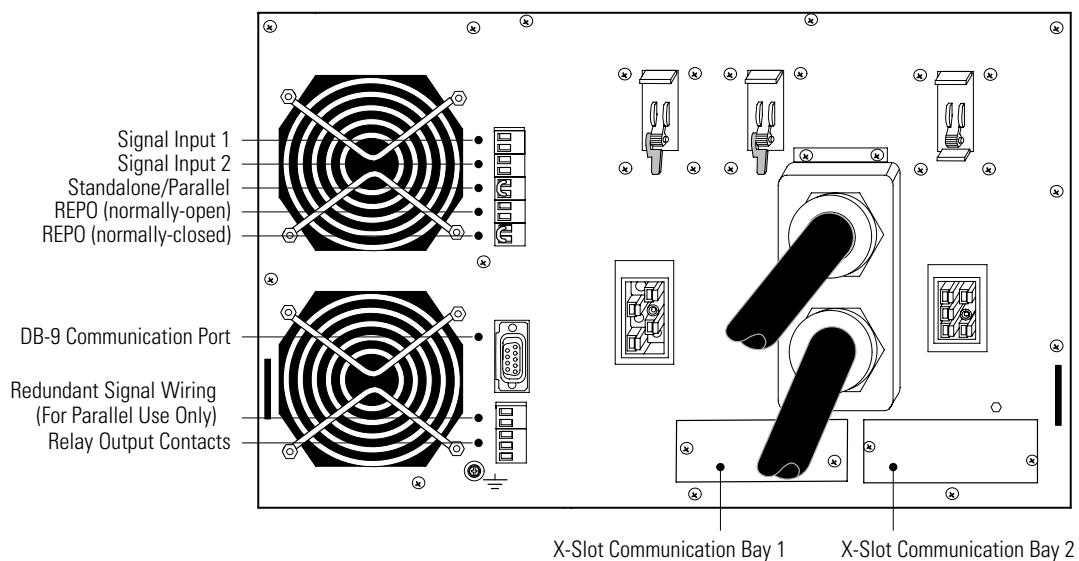
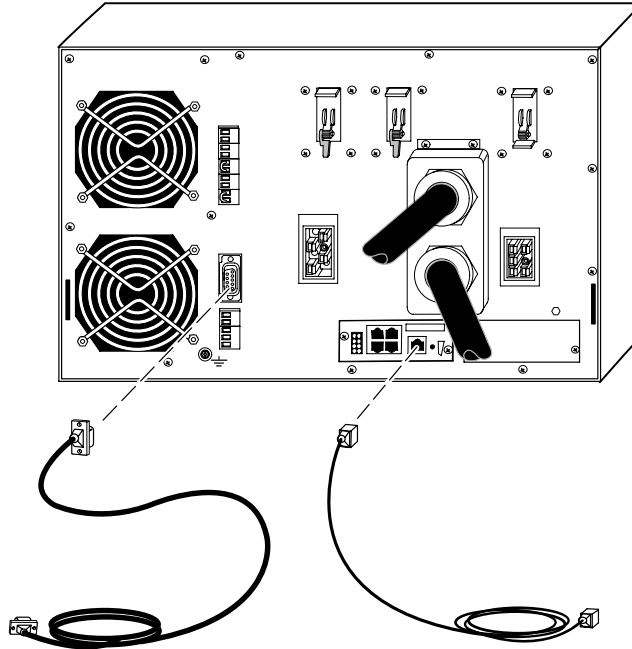
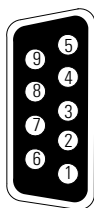

Figure 45. Communication Options and Control Terminals (Standalone UPS shown)
Figure 46. Installing Communication Cables
Figure 47. Communication Port
Figure 45 shows the location of the communication options and control terminals on the UPS.
1. Install the appropriate X-Slot card and/or necessary cable(s) (see Figure 45 and Figure 46).
The cable pins are identified in Figure 47 and the pin functions are described in Table 5. See Figure 45 on page 87 for the communication port location.
See Figure 45 on page 87 for the location of the two X-Slot communication bays.
There are two REPO positions that may be used, normally-open (NO) or normally-closed (NC). See Figure 45 on page 87 for REPO locations.
The UPS incorporates a programmable relay output with potential free contacts for remote alarm indications (see Figure 45 on page 87). An additional four relay outputs can be obtained with the X-Slot compatible Relay Interface Card.
The UPS incorporates two programmable signal inputs (see Figure 45 on page 87). Use of non-polar (relay) control input is recommended. The pins must be shorted with maximum resistance of 10 ohm in order to activate the specific input.